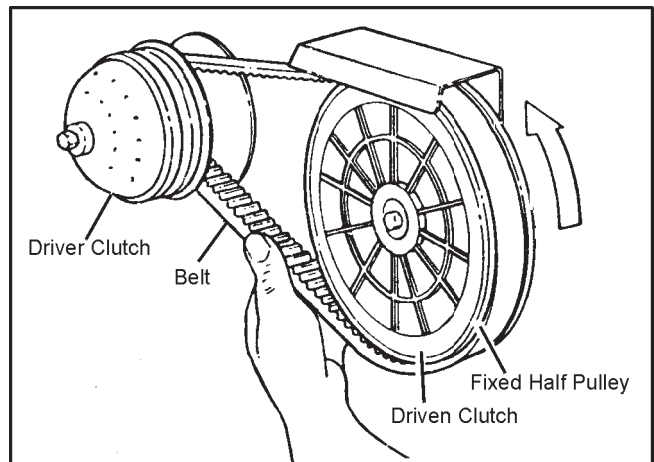

Figure 7-3. Removing the drive belt
5. Ease the belt over the fixed half pulley of the driven clutch starting from the bottom of the clutch, while turning the clutch counterclockwise until the belt is off. (Figure 7-3).